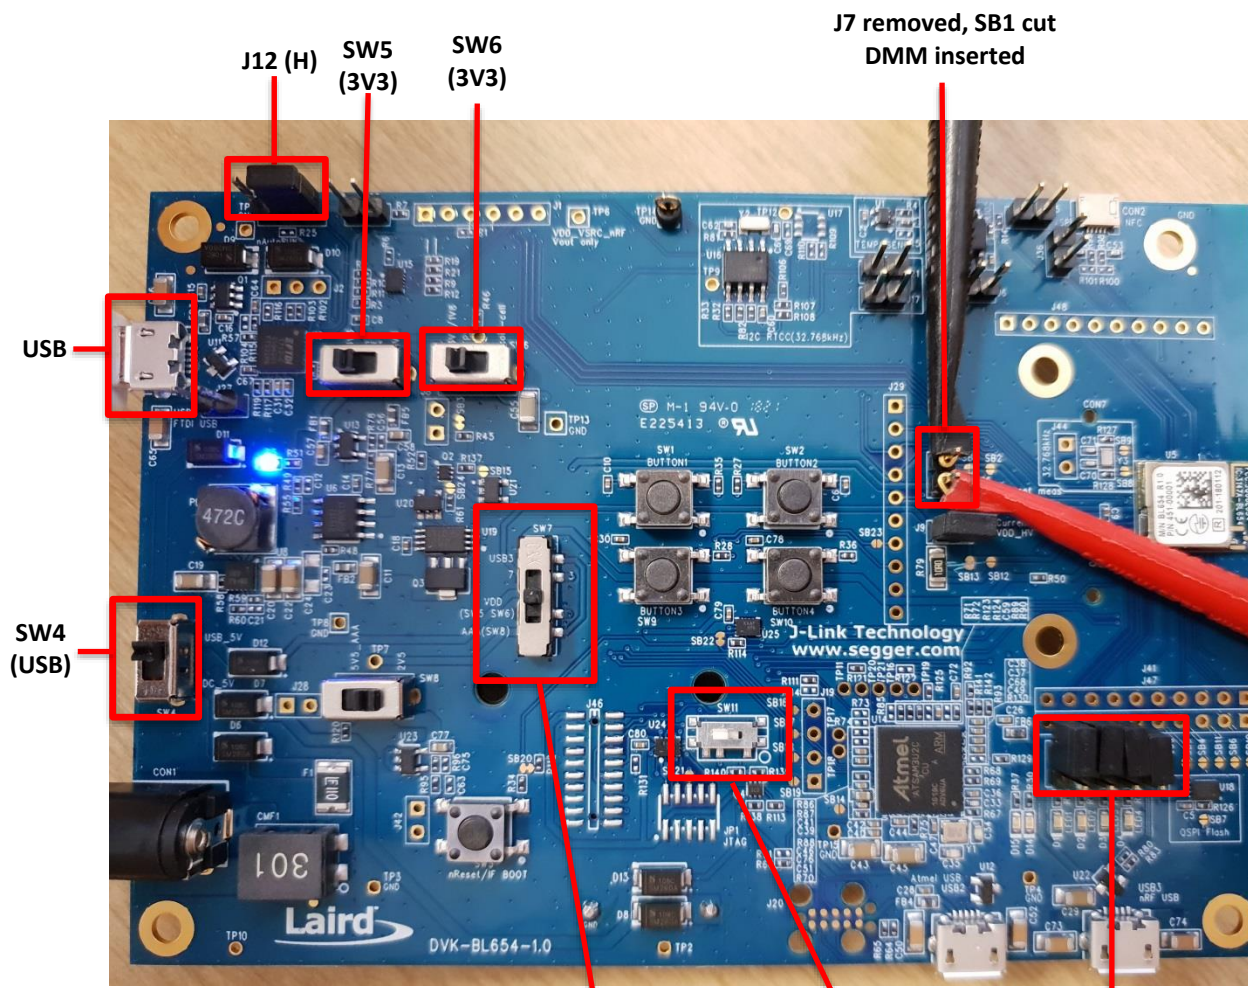

Figure 1: BL654 development board
1. Configure the board to the following settings (shown in Figure 1)
2. To measure the current consumption of the module, connect the current measuring DMM to J7 on the development kit (Figure 1).